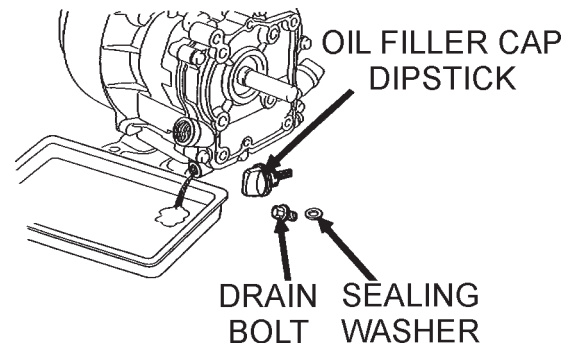

Figure 14. Engine Oil (Draining)
2. Drain the engine oil when the oil is **warm** after operation. Remove the oil filler cap then unscrew the engine oil drain plug located at the base of the engine. Drain the old oil into a pan (Figure 14).